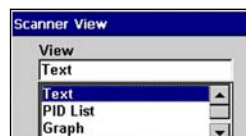

Figure 5-66 Sample Scanner View menu
2. Press **Y/✓** to display a drop-down list (Figure 5-66).